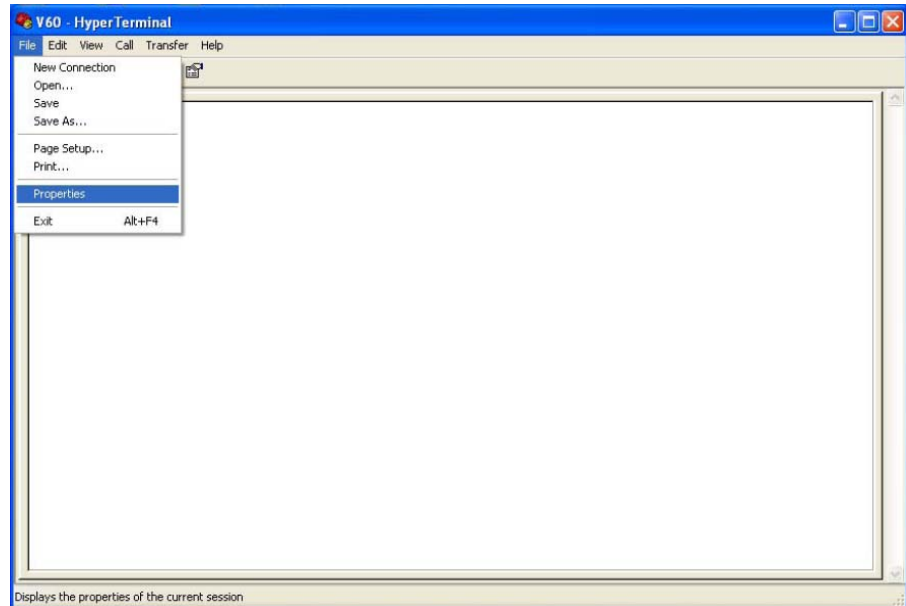

Figure 6-5: Selecting HyperTerminal Properties
6. At the HyperTerminal window, click **File**, then **Properties** (Figure 6-5).